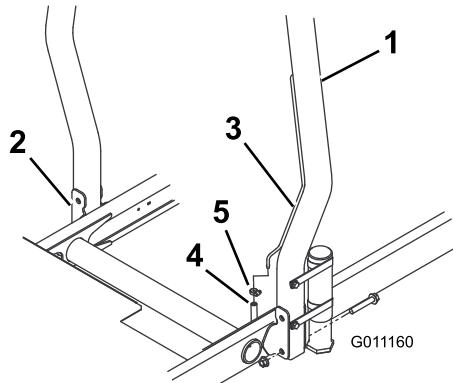

Figure 9
1. Lower the roll bar onto the traction unit mounting brackets, aligning the mounting holes. Ensure that the vent tube on the roll bar is on the left side of the machine (Figure 9).
2. Secure each side of the roll bar to the mounting brackets with 2 flange head bolts and locknuts (Figure 9). Torque the fasteners to 60 ft-lb (81 N-m).